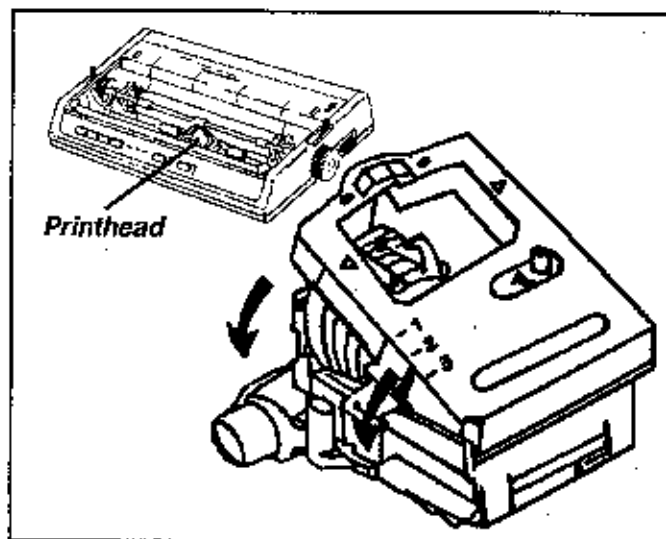

Figure 212
## To Change Ribbon (Refer to Figure 212)
1. With the knob side up, tilt the ribbon cartridge onto the printhead plate so that it slides into the area of the plate that is closest to the front of the printer (see Figure 212).